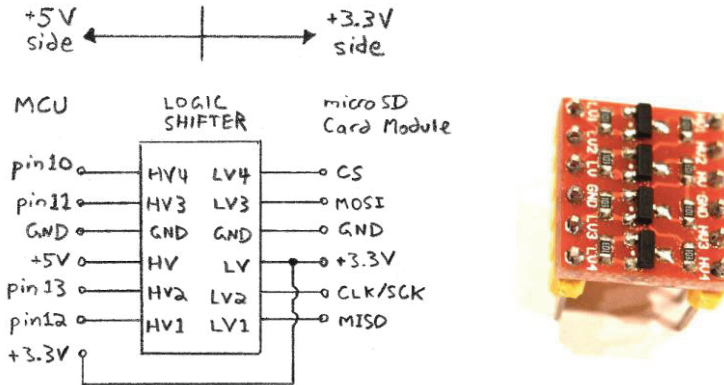

Figure 8-19. Circuit diagram (left) of a logic shifter (photo right), safely bridging a 3.3V microSD card module to the hotter 5V logic-level MCU.
The SD card library is very simple to use. It works with both SD and microSD cards. In Activity 8-3, we will be setting up an SD card module, then logging data to a memory card. The microSD card modules purchased for this exercise operate on **3.3V logic**. The 5V modules are also available around the same price, but the 3.3V modules allowed me to introduce another very useful tool: a **logic shifter**. The Uno's 5V logic level would damage an SD card. A **logic shifter** converts a high voltage side (HV), in this case the 5V logic level of the Arduino Uno, down to a low voltage side (LV), in this case the 3.3V logic level of the microSD card module. The logic shifter is bi-directional: it will lower a 5V signal leaving the Arduino Uno to a 3.3V signal for the SD card module, and it will raise a 3.3V signal leaving the SD card module to a 5V signal to be read by the Arduino Uno. You can see how a logic shifter is connected in the circuit diagram in Figure 8-19.
- 2) Build the circuit in Figure 8-19.